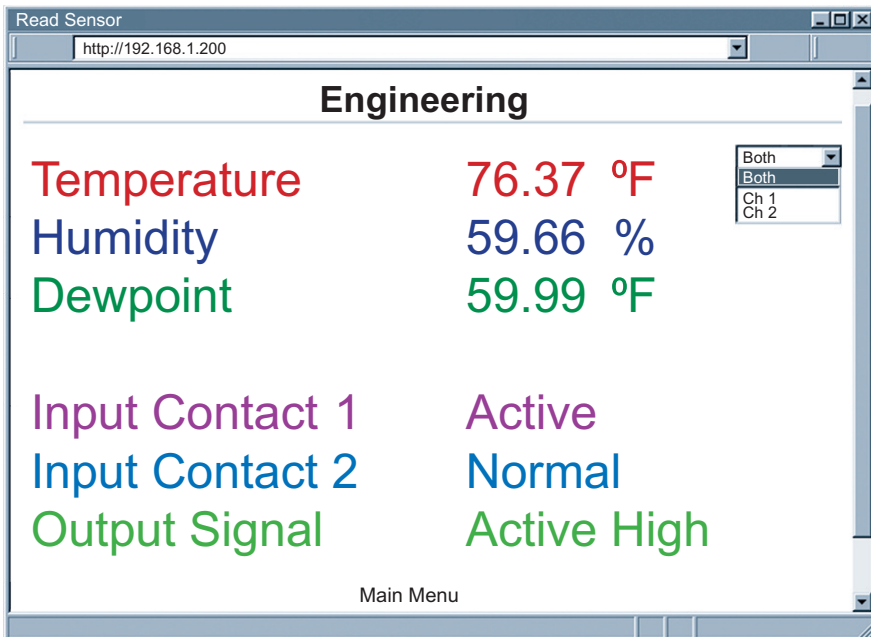

Figure 4.7 Read Sensor
- Click on Read Sensor. In a few seconds the following page (**Figure 4.7**) will appear with all default values of 100.00. Then the actual readings of Temperature, Humidity and Dewpoint will display.